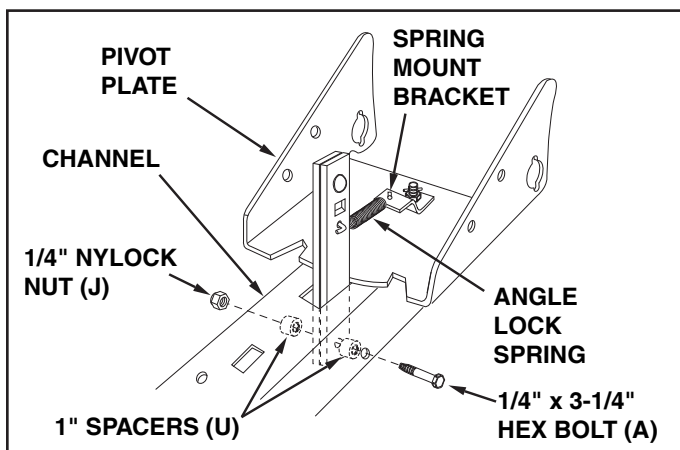

FIGURE 16 (Right Hand Side View)
STEP 2: (SEE FIGURE 16)
- Insert the angle lock bars down through the slot in the channel. Underneath the channel, place a 1" long spacer (U) on each side of the angle lock bars and insert a 1/4" x 3-1/4" bolt (A) through the channel, angle lock bars and the spacers. Secure the bolt with a 1/4" nylock nut (J). **Tighten** so that lock bars can pivot freely.